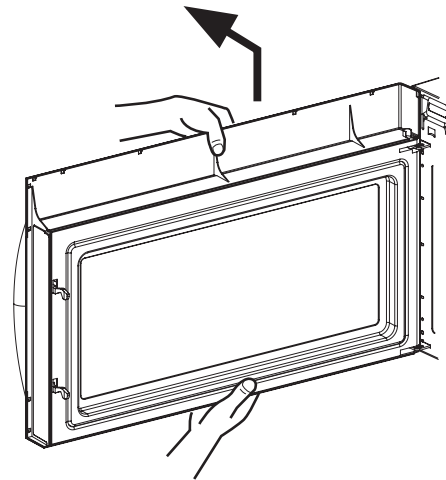

Figure 12
F. REMOVING DOOR (Figure 12)
- (1) Remove the vent grille by two screws securing it to the outcase loosening.
- (2) Lift up and draw the door.